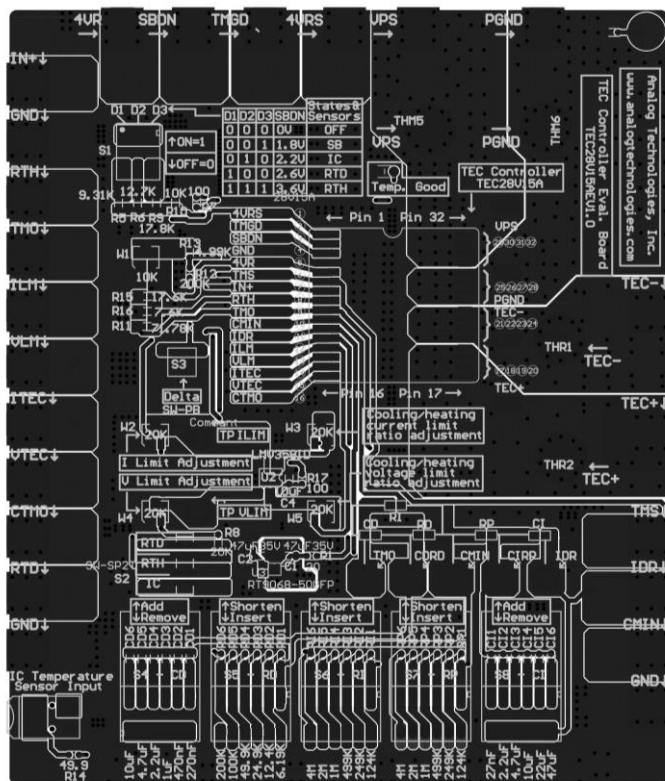
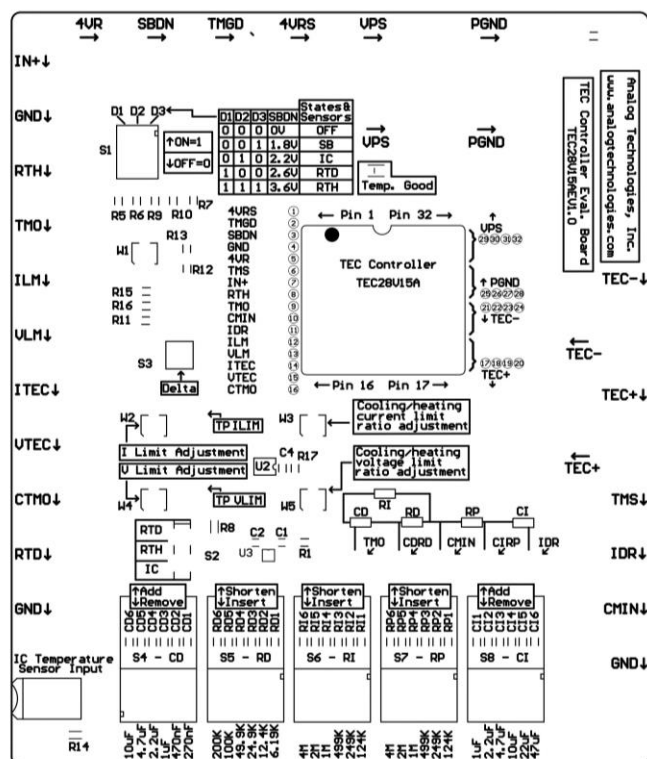

Figure 2. Top Silkscreen Layer with Other Top Layers
Figure 6. Top Silkscreen
The silkscreen layer of the evaluation board is shown in Figure 2 with other top layers, including top silkscreen, top copper, top solder mask, and multilayer (vias). Figure 6 only shows the image of top silkscreen layer. There is no component in the bottom side of the board, so that there is no bottom silkscreen layer image.
There are 3 terminal blocks also located on the left, top and the right side of the board, their connectors are for the same nodes of the solder pads. See the silkscreen image in Figure 6. When the thermal control loop of the TEC controller works properly, the LED on the upper location will be lit up.
2. When using RTH sample hold mode, connect R15 to pin 4VRS. Turn the S2 switch to RTH, and then turn S1 to RTH. The SBDN voltage is 3.6V. See Figure 6.
3. After tuning, the values of the capacitors for C_D and C_I can be read off the capacitor selection switches. The values of the resistors, R_I , R_d and R_P , can be measured by an Ohmmeter by connecting to the resistor pins. As seen in the photo of Figure 6, R_I can be read off between TMS and CMIN test points; R_D can be read off between CMIN and CDRD test points; R_P can be read off between CMIN and